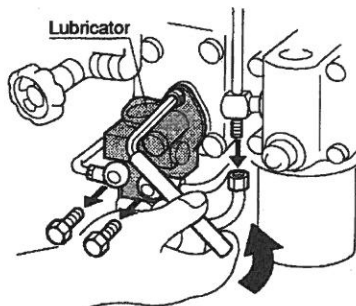

Fig. 45
- (1) Replace the lubricator at every 8000 hours of operation.
- (2) Replace the lubricator as illustrated in Fig. 45.
- (3) As quantity of oil supply has been adjusted to appropriate quantity before shipment, basically do not change it.